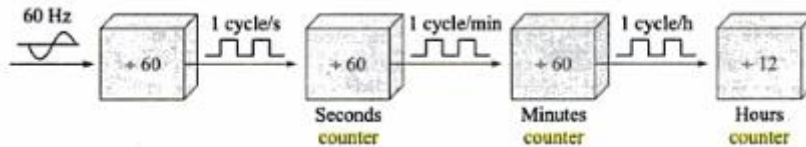

Figure 10.40: Block diagram of digital clock
- As shown in figure 10.40, the first divide-by-60 counter divides the 60Hz power signal down to a 1Hz square wave. The second divide-by-60 counter changes state once each second and has 60 discrete states. It can be decoded to provide signals to display seconds. This counter is referred to as the seconds counter.